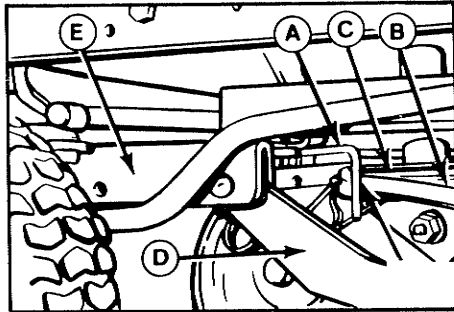
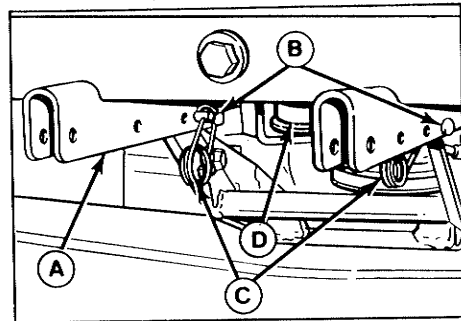
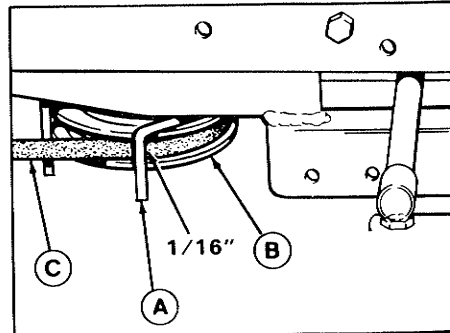

Figure 3. L.H. Belt Stop - All Mowers
Figure 4. Mower Hitch Attached
Figure 5. R.H. PTO Pulley Belt Stop, - 36" Mower
9. Insert the mower hitch arms in the tractor hitch (figure 3). Align the holes in the hitch arms with the rear holes in the tractor hitch. Insert the pins (B, figure 4) from the outside and install the clips (C).
10. Slip the mower drive belt onto the engine PTO pulley (figure 3) loosening belt stops as necessary. The left-hand belt stop is shown in figure 3. The right-hand belt stop is shown in figure 5 (36" mower) or figure 6 (42" mower).